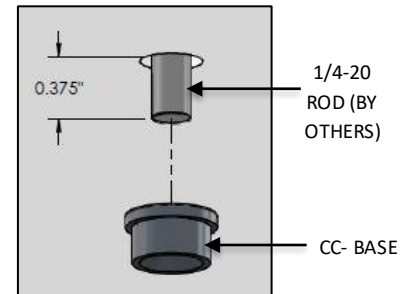

FIG. 8 - GRID CEILING INSTALLATION
5. Add a light thread locking compound to the 1/4-20 ROD (by others). Then thread CC-BASE to 1/4-20 ROD protruding through the ceiling material as shown in FIG. 8.